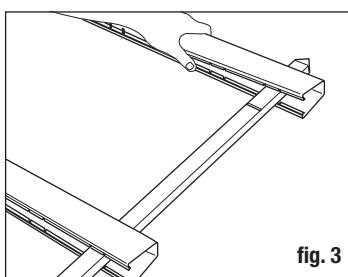

fig. 3
- Continue to push the picket through the bottom rail into the throat and hole of the second rail (fig. 3). The second rail becomes the top rail of the assembly. Stop when the tab in the bottom rail and the notch on the picket align. **DO NOT SNAP INTO PLACE**.